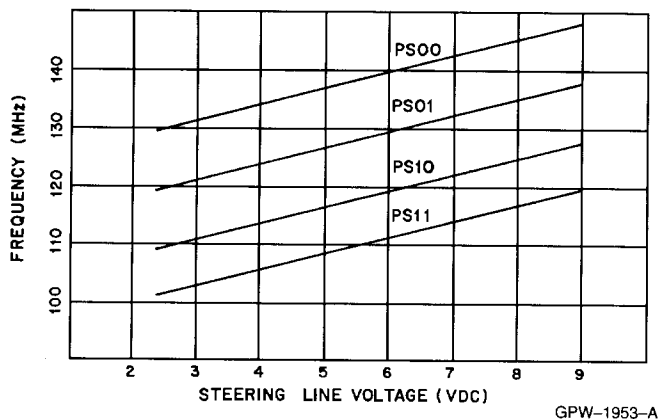

Figure 1. VCO Response to Steering Line Voltage
The steering line, in conjunction with the pinshift lines, determines the operating frequency of the VCO. The steering line is driven by the phase detector (U603) and is coupled to the VCO via the adaptive filter. The phase detector supplies a DC output voltage to maintain the VCO output at the desired frequency. When the frequency is changed, the phase detector DC output voltage shifts to change the oscillator frequency and then maintain this new frequency. Figure 1 shows the transmit and receive oscillator frequencies as functions of the steering line DC voltage.
- (2) Connect a frequency counter to the VCO feedback from the internal casting (P600). Check the pinshift lines to determine the expected VCO operating range. Verify that the lines are either high ($\geq 9V$) or low ($\leq 0.5V$). Slowly vary the steering line voltage from 3V to 8V. Verify that the VCO covers its intended frequency range (see 2.6.2.2 and Figure 1). Also check the power level and verify that it is greater than –4 dBm. Check for proper operation in all pin states. If the pinshift lines are all right and the output level to the divider port is adequate but the VCO cannot be tuned over the desired frequency range with the steering line voltage, then the VCO is faulty and should be replaced.